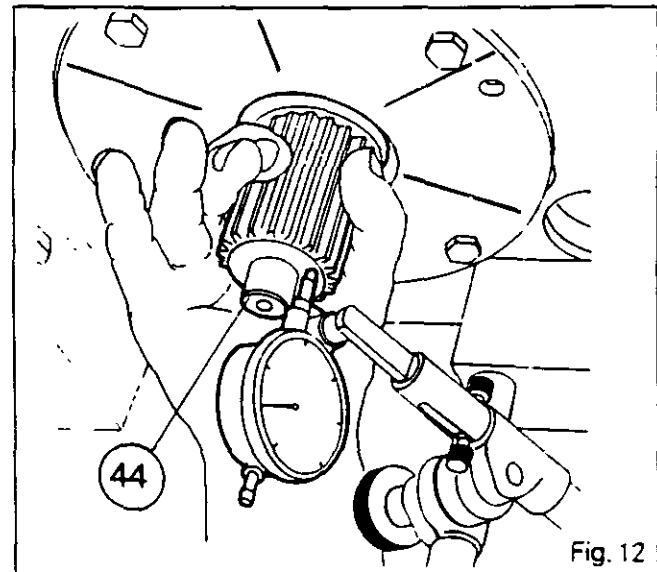

Fig. 12
**Note:** In the case of gearboxes equipped with creeper gears, use the gearbox locking ring (see Fig. 12) in place of the locking ring. Tighten the bolt to a torque of 34 - 52 Nm.